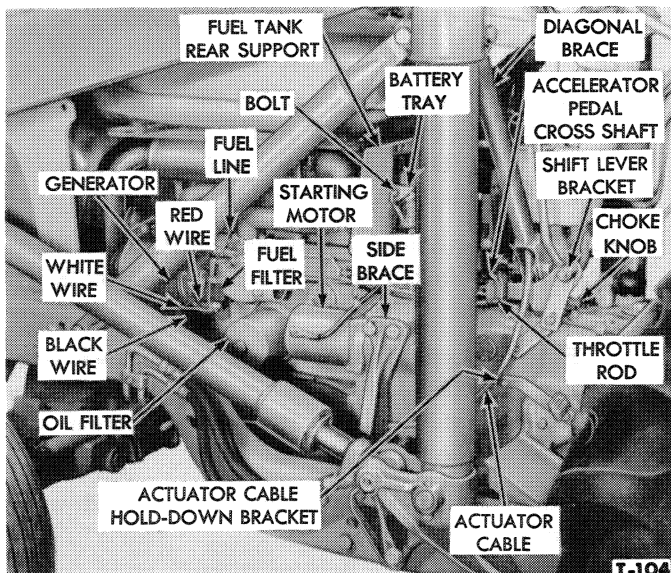

Figure 5—Left Side of Engine
Remove the bolt that attaches the battery tray to the left side of the fuel tank rear support, see Figure 5.
8. Disconnect the three wires from the generator, see Figure 5.
**Tractor With Loader:** Remove the left diagonal brace attaching bolts and lock washers, then remove the brace, see Figure 5.
**Power Steering:** Disconnect the actuator cable from the steering gear housing. Disconnect the cable hold-down bracket from the transmission and from the left frame side rail, see Figure 5.
**Reversing Transmission:** Secure the shift lever bracket to the transmission, see Figure 5.
13. Attach the muffler outlet pipe support to the fuel tank support with two bolts and lock washers. Attach the battery support to the fuel tank support with a bolt, lock washer and nut, see Figure 5.